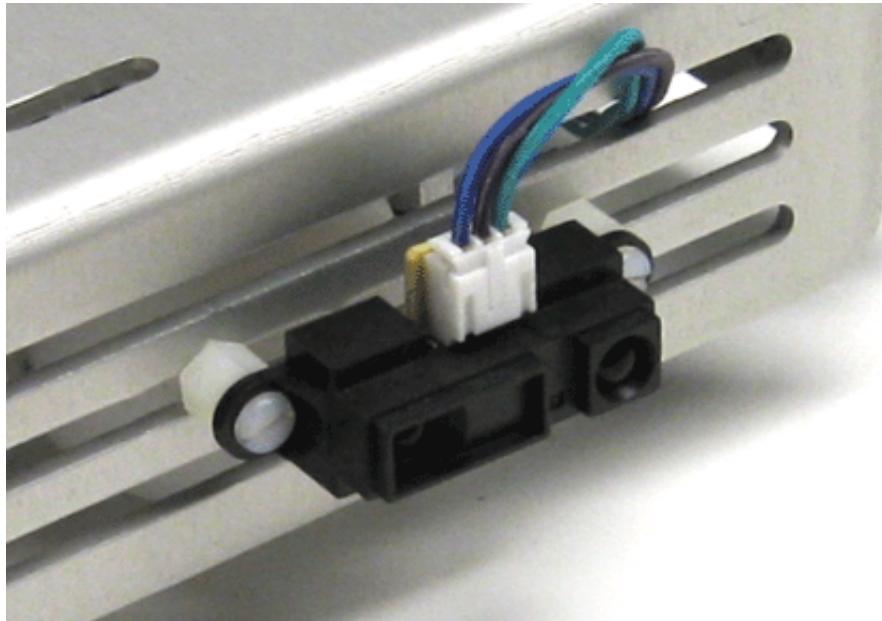

Figure 2. Analog distance sensor secured to the chassis.
1. Using nylon standoffs, screws, and nuts, secure the sensor to the front of the chassis, as shown in Figure 2. *NOTE: Make sure that the standoffs insulate the sensor from the chassis.*